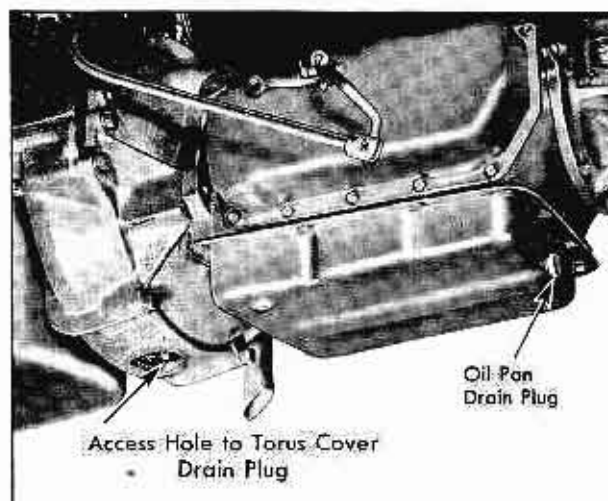

Fig. 14-5 Transmission Drain Plugs
1. Remove drain plug from transmission oil pan and from torus cover, which is accessible through the inspection hole in lower flywheel housing. Fig. 14-5.